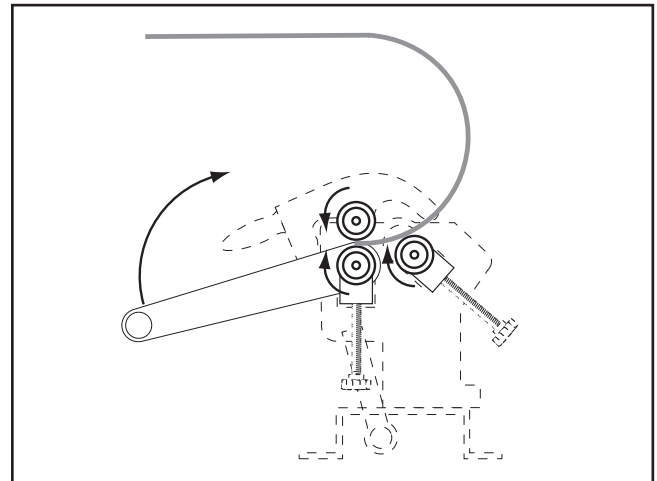

Figure 23. Processing the workpiece.
- Turn the crank to process the material through the slip roll. Continue turning until the workpiece is completely through the top and bottom rollers (**Figure 23**).